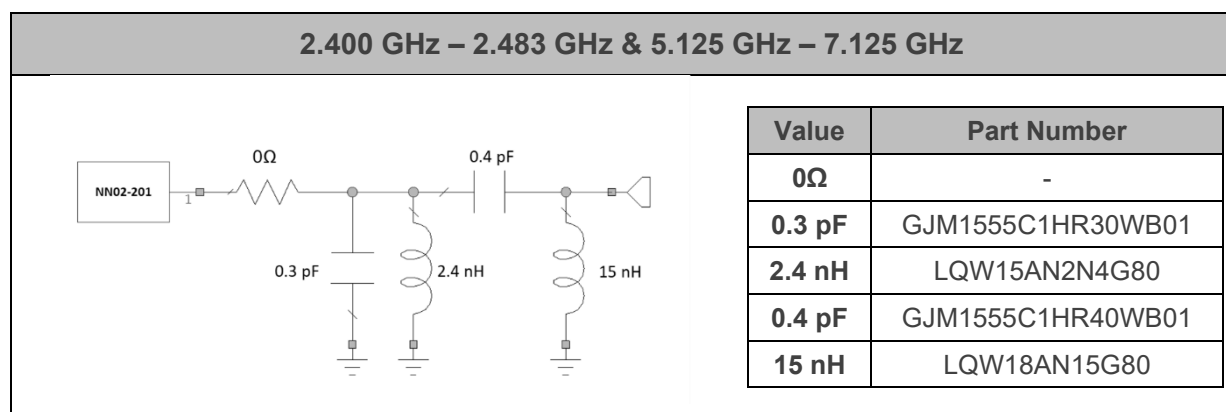

Figure 3 – Topology and values of the matching network from the evaluation board (Figure 1).
The ONE mXTEND™ antenna booster needs a matching network to connect to your Wi-Fi 6E transceiver. This section describes the recommended matching network topology and component values (Figure 3) from the Evaluation Board (Figure 1).
The antenna performance is always conditioned by its operating environment. Different devices with different printed circuit board sizes, components nearby the antenna, LCD's, batteries, covers, connectors, etc. may need a different matching network. Accordingly, it is highly recommended to place pads compatible with 0402 and 0603 SMD components for a matching network as close as possible to the feeding point of the antenna element in the ground plane area, not in the clearance area. This provides a degree of freedom to tune the ONE mXTEND™ antenna booster once the design is finished and takes into account all elements of the system (batteries, displays, covers, etc.). To ensure optimal results, the use of high-quality factor (Q) and tight tolerance components is highly recommended (e.g. Murata components (**Figure 3**)).
Table 1 - Antenna gain and total efficiency from the Evaluation Board (Figure 1) for 2.400GHz – 2.483GHz with the matching network of Figure 3.
Table 2 - Antenna gain and total efficiency from the Evaluation Board (Figure 1) for 5.170 GHz – 5.835 GHz with the matching network of Figure 3.
Table 3 – Antenna gain and total efficiency from the Evaluation Board (Figure 1) for 5.925 GHz – 7.125 GHz with the matching network of Figure 3.